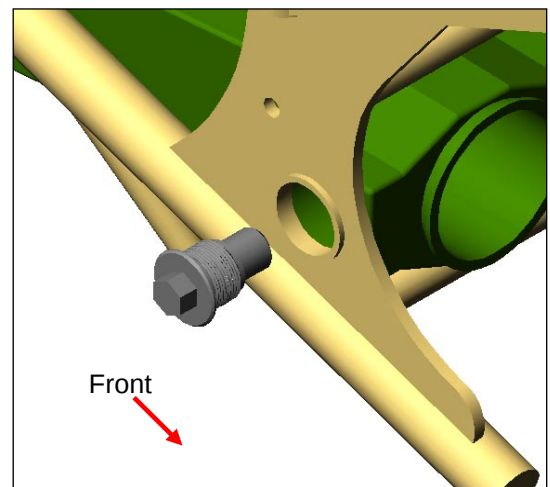
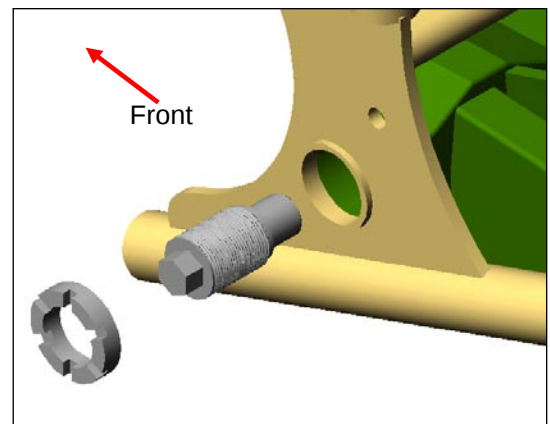

Figure 18
Figure 19
- b. Position Champion Swing Arm and install supplied shoulder bolt (RHS) and adjuster bolt (LHS). Figure 18 & Figure 19